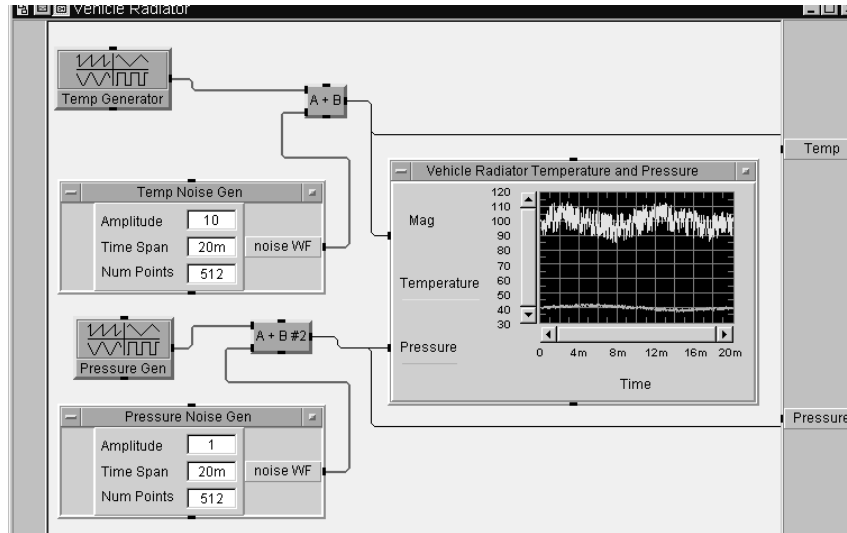

Figure 8.7. The modified Vehicle Radiator UserObject
9. Paste the Vehicle Radiator display and center it between the Temp and Pressure output pins as shown in Figure 8.7.
10. Connect the Vehicle Radiator display input pins as shown in Figure 8.7 above.